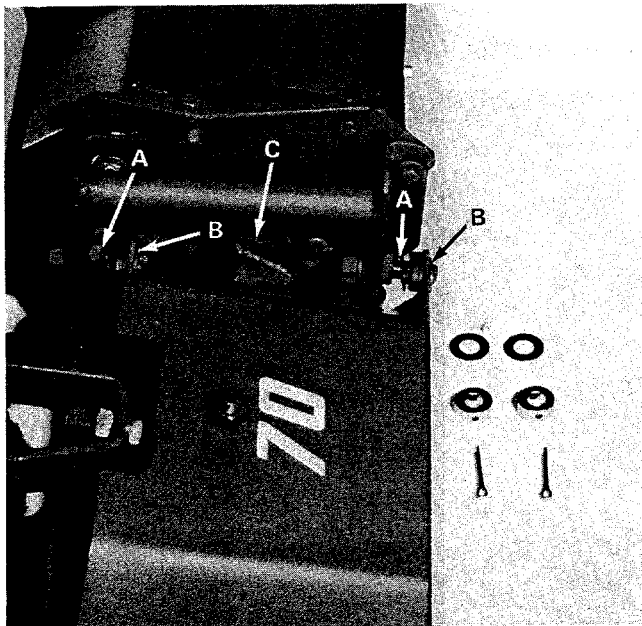

Figure 7
9. Install a flat washer "A" on each pivot stud, position pivot studs with center frame holes "B" and drive ball with drive shaft "C" and install cutting unit to frame (Fig. 7).